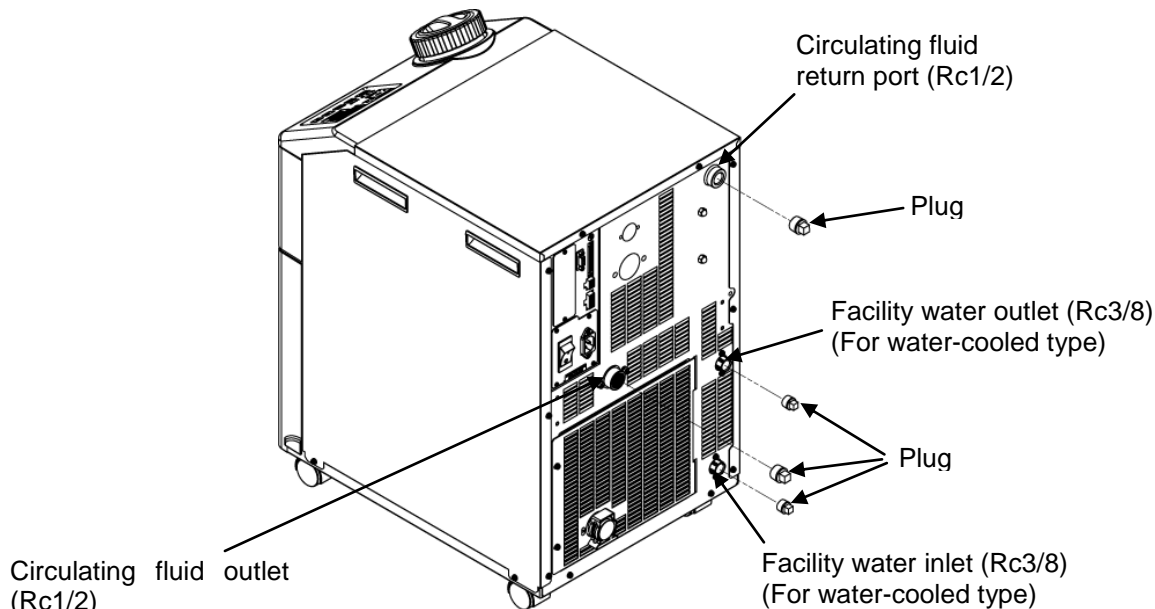

Fig. 4.2-5 Plug to the piping of the product
9. Refer to Fig. 4.2-5 Plug to the piping of the product to mount the plug to the piping of the product.